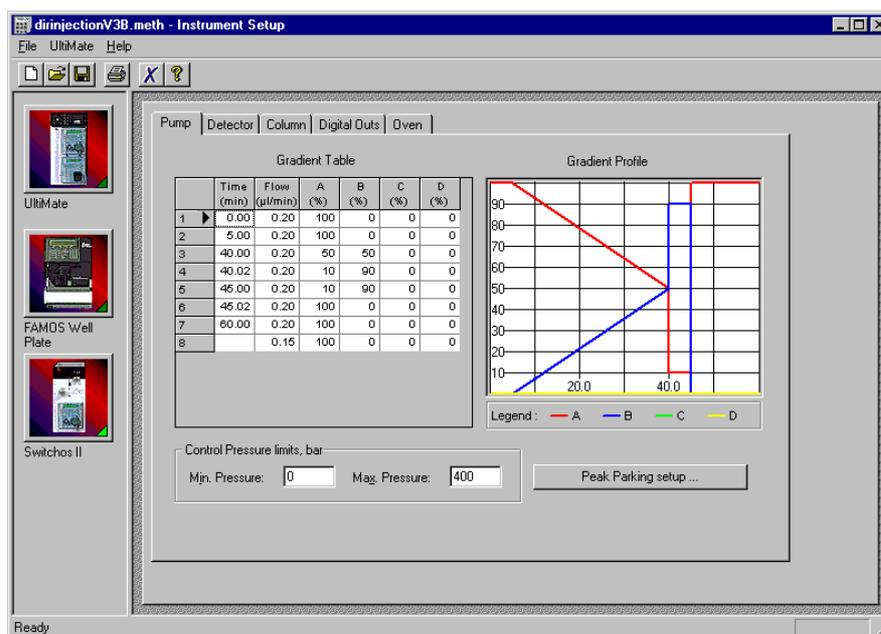

FIGURE 2-37 The Pump Setup Tab in the Instrument Setup Window
- a) Choose the **Peak Parking setup ...** button on the **Pump** tab in the **Instrument Setup** window (FIGURE 2-37).